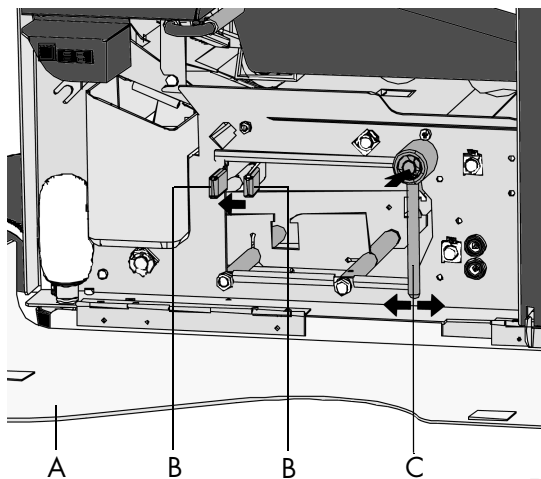

Fig. 53
- open the side cover A (fig. 53).